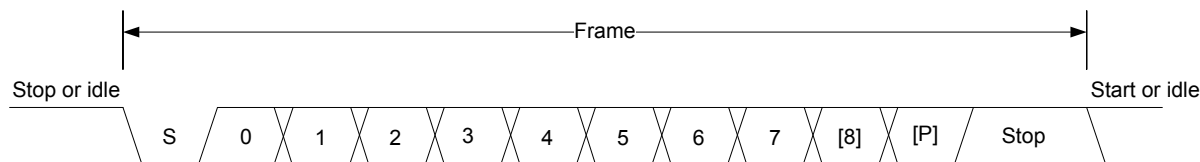

Figure 19.2. LEUART Asynchronous Frame Format
The frame format used by the LEUART consists of a set of data bits in addition to bits for synchronization and optionally a parity bit for error checking. A frame starts with one start-bit (S), where the line is driven low for one bit-period. This signals the start of a frame, and is used for synchronization. Following the start bit are 8 or 9 data bits and an optional parity bit. The data is transmitted with the least significant bit first. Finally, a number of stop-bits, where the line is driven high, end the frame. The frame format is shown in Figure 19.2 LEUART Asynchronous Frame Format on page 617.